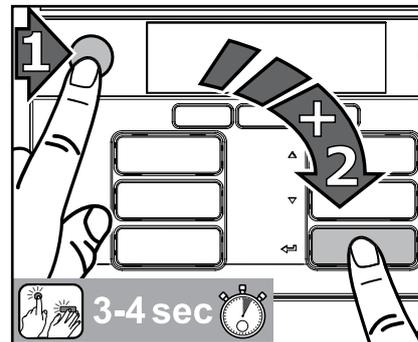

Fig. 31
1. Press first the STOP button and then the enter button  and hold them pressed simultaneously for 3-4 seconds to enter the cleaning mode (fig. 31).